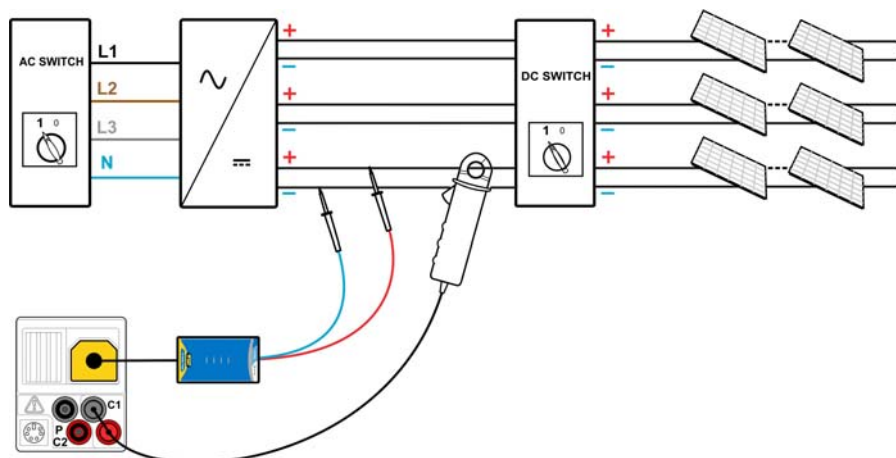

Figure 6.5: PV inverter test - DC side
- ❑ **Connect** PV safety probe and current clamp to the instrument (see figures 6.5 and 6.6) or
- ❑ **Connect** accessories to the PV system (see figures 6.5 to 6.7).